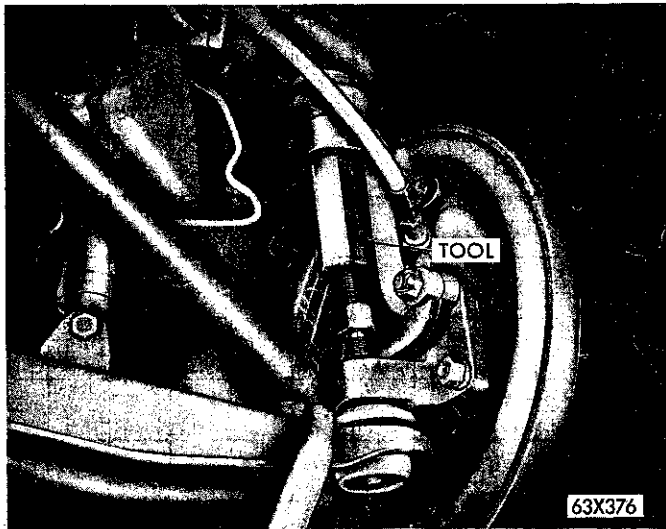

Fig. 5—Removing Lower Ball Joint from Knuckle
(1) Place a jack under the lower control arm and raise the vehicle.
(2) Remove the wheel, tire and drum assembly and the brake support plate.
(3) Remove the upper and lower ball joint and nuts. Slide Tool C-3564 over the upper stud until the tool rests on the steering knuckle. Turn the threaded portion of the tool locking it securely against the lower stud (Fig. 5). Spread the tool enough to place the lower stud under pressure, then strike the steering knuckle sharply with a hammer to loosen the stud.
(1) Place a jack under the number 2 crossmember and raise the vehicle until both front wheels clear the floor.
(2) Remove the torsion bar, Paragraph 4.
(3) Remove the wheel, tire and drum assembly. Remove the brake support plate assembly.
(4) Disconnect the shock absorber at the lower control arm bracket then push the shock absorber up into the frame out of the way.
(5) Remove the nuts, lockwashers and bolts that attach the strut to the lower control arm.
(6) Remove the upper and lower ball joint stud nuts. Slide Tool C-3564 over the upper stud until the tool rests on the steering knuckle. Turn the threaded portion of the tool locking it securely against the lower stud (Fig. 5). Spread the tool enough to place the lower stud under pressure, then strike the steering knuckle sharply with a hammer to loosen the stud. **Do not attempt to force the stud out of the knuckle with the tool alone.**
(7) Remove the tool, and disengage the ball joint from the knuckle.
(8) Remove the cotter pin, nut and washer that attaches the lower control arm shaft to the frame. With the washer and cotter pin removed, reinstall the nut until it is flush with the end of the shaft to protect the threads.
(9) Using a hammer and brass drift, loosen the shaft (a tapered fit in front crossmember), then remove the nut. Slide the lower control arm and shaft out from the rear of the crossmember.